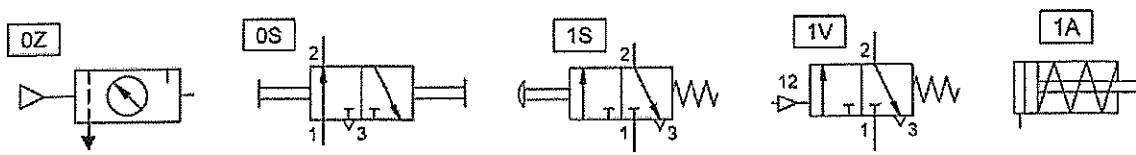

Figure Q3(c) (source: Pneumatics Basic Level, Festo)
c. The Figure Q3(c) above is using an indirect control of a single-acting cylinder. Rearrange the symbol of the devices and make it a system and complete diagram in answer booklet.